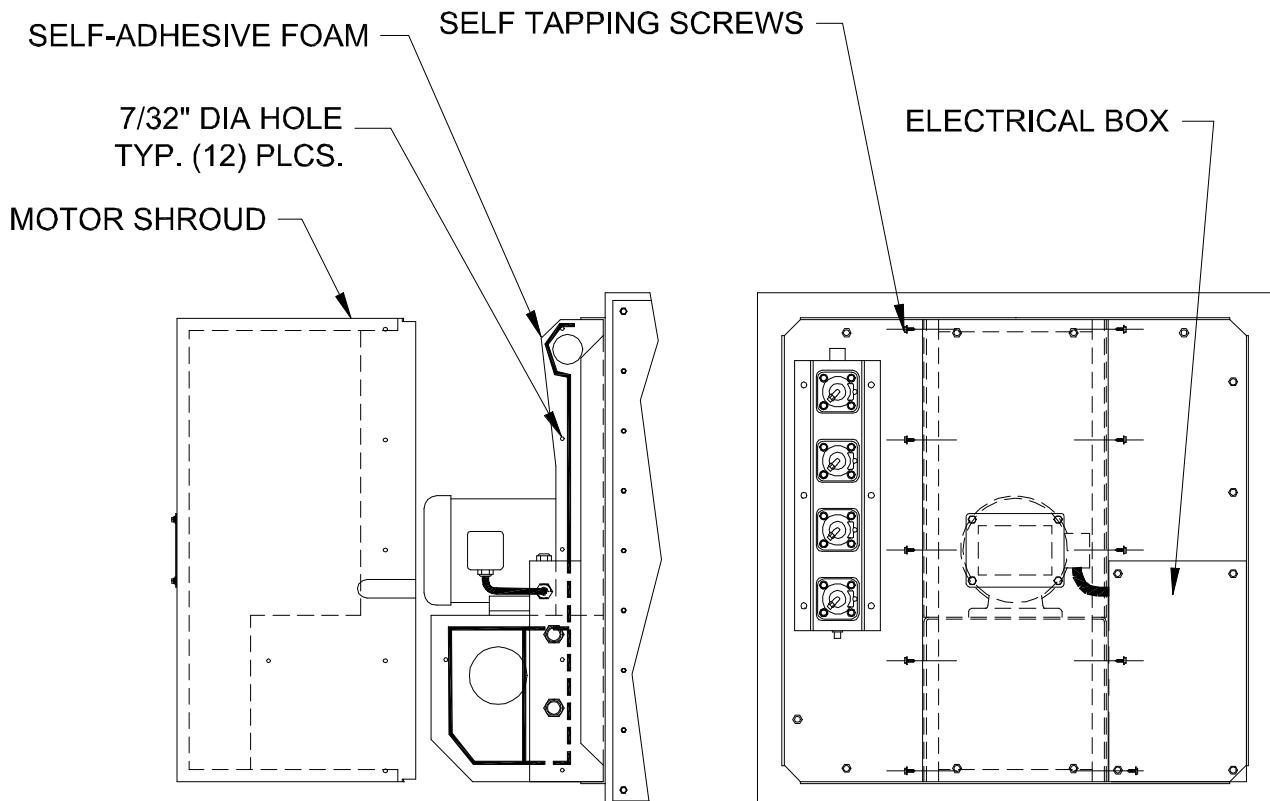

FIG. 15
2. Examine the vertical braces on each side of the motor that run the full length of the motor blower assembly. If each of the vertical braces have six (6) 7/32" diameter holes proceed to Step 6. If the braces do not have the six (6) 7/32" diameter holes proceed to Step 3.
3. Place the motor shroud, as shown in Figure 15 below, over the motor having located the slotted hole of the motor shroud on the right hand side. This will allow the wiring conduit to clear the motor shroud.
4. With the shroud in place mark the centers of the six (6) holes in each vertical brace. On the bottom right hand side of the shroud the electrical box will may prevent you from marking two (2) of the holes. The two (2) holes may be omitted.
7. Re-install the motor shroud around the motor and attach using the twelve (12) self-tapping screws provided.